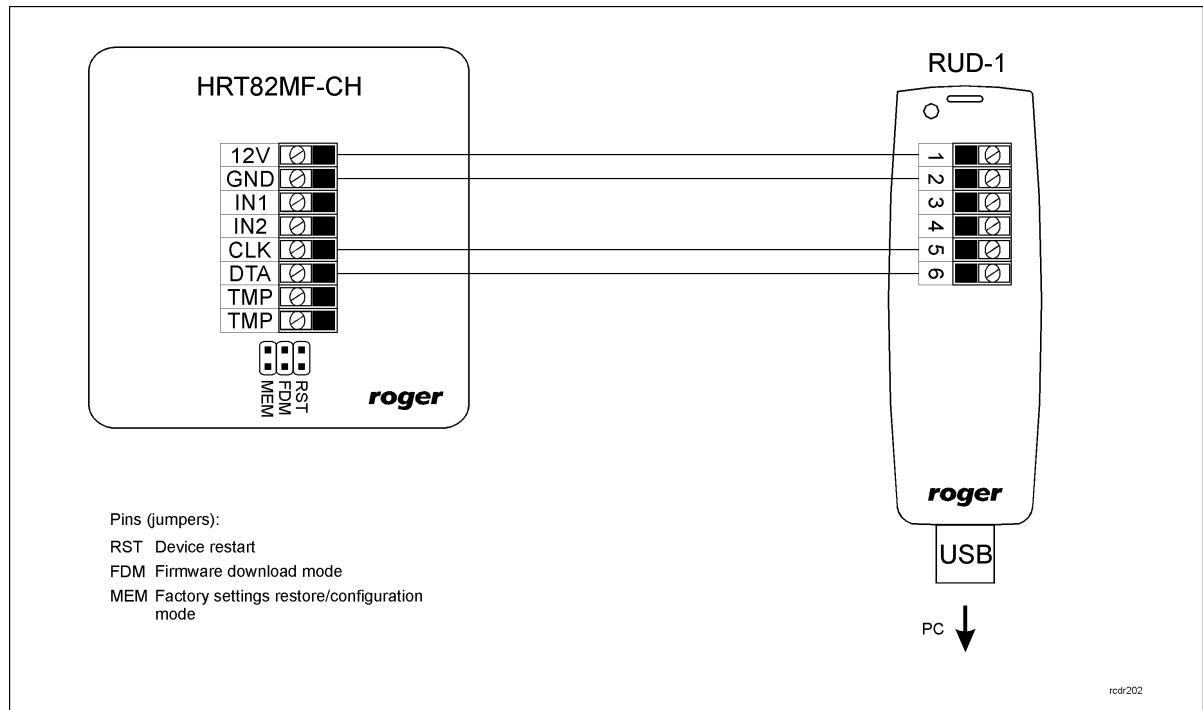

Fig. 6 HRT82MF-CH and RUD-1 connection
1. Connect device to RUD-1 communication interface according to fig. 6